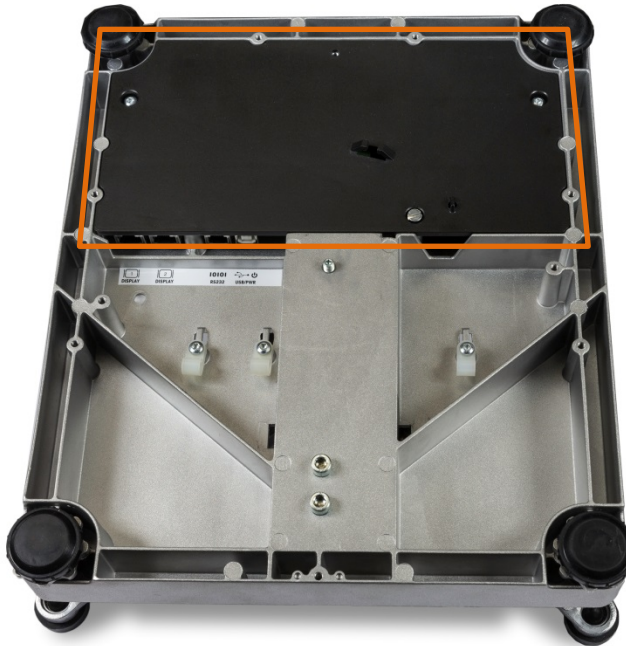

Figure 5-9: PCB Cover In Place
6. Remove the PCB cover, shown outlined in Figure 5-9. If there is a metrology lock seal, it must be broken. Note the scale connectors that are attached to the PCB.
5. Remove the PCB cover (Figure 5-9). If there is a metrology lock seal, it must be broken. Note the scale connector attached to the PCB.